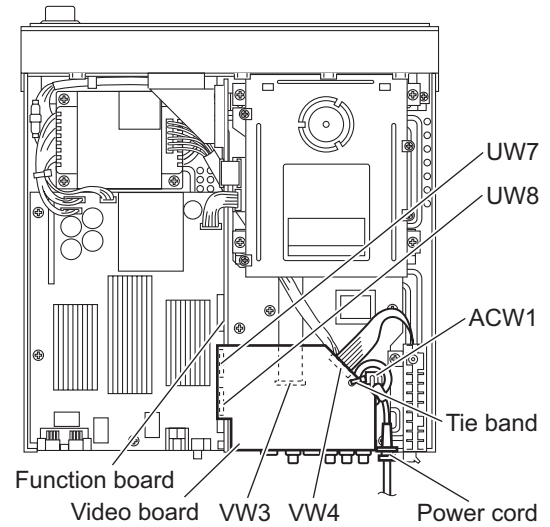

Fig.12
3.1.8 Removing the video board (See Fig.12)